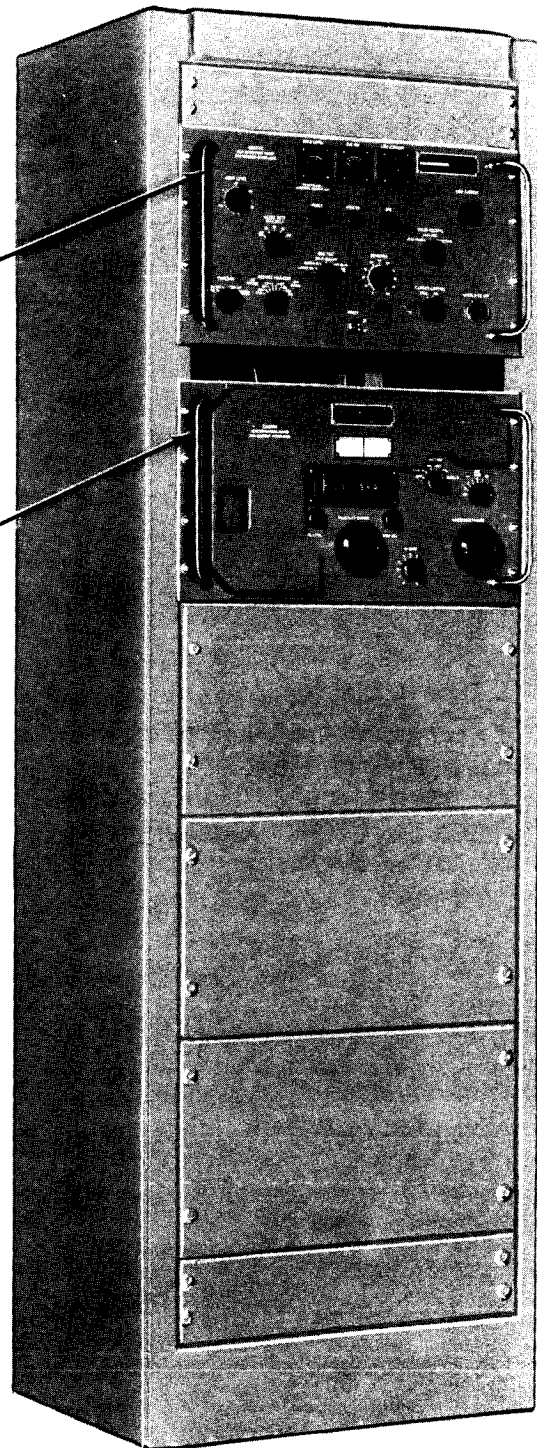

Figure 2. Oscillator Group AN/URA-13,
b. The equipment consists of Radio Frequency Oscillator O-152/URA-13, which produces a stabilized radio frequency oscillation, and Radio Receiver R-390/URR, which produces an if. signal on which the radio frequency oscillator stabilizes. A number of additional components, listed in par. 7, is also included with the group. The operating components set up for operation are shown in figures 2 and 3.